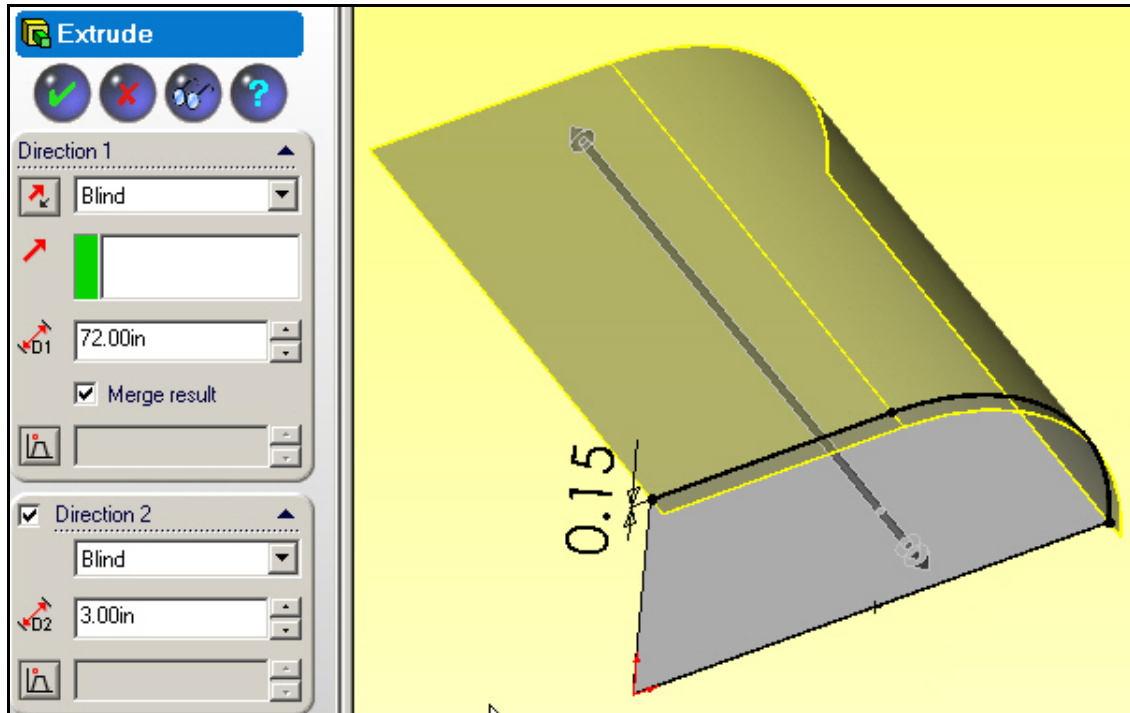
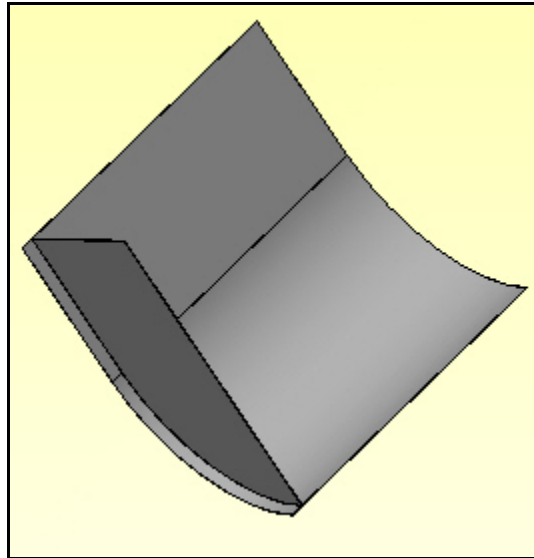

Figure 9 Two direction extrusion of the wall
Figure 10 The final quarter symmetry part
2. In the **Extrude** panel set **Direction 1** for the upper (water confining) wall and **Direction 2** for the support (lower) wall, as in Figure 9. Figure 10 shows the final part, as viewed from below.